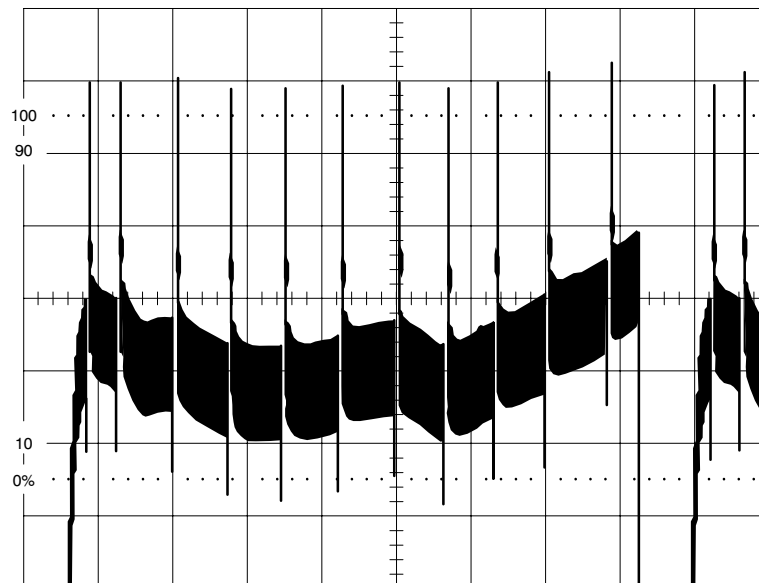

Figure 5–11: Frequency response display
- Measure the sweep envelope. See Figure 5–11.